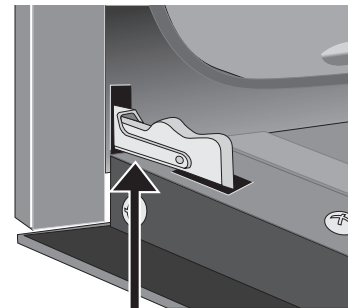

Figure 40: Hinge in locked position
4. Push both the door hinge locks up towards and into the oven frame to the locked position (Figure 40).